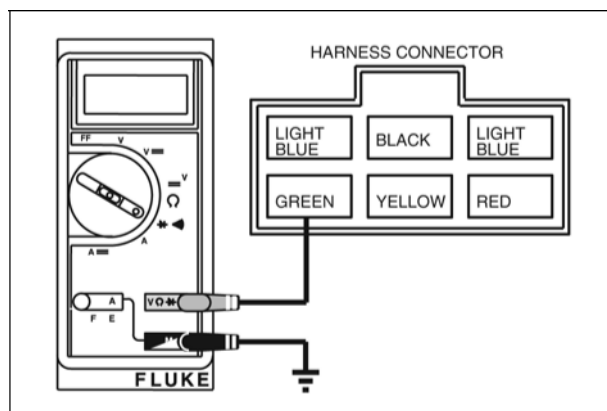

Figure 16
3. Check continuity between charging indicator wire (green) and ground (Figure 16).